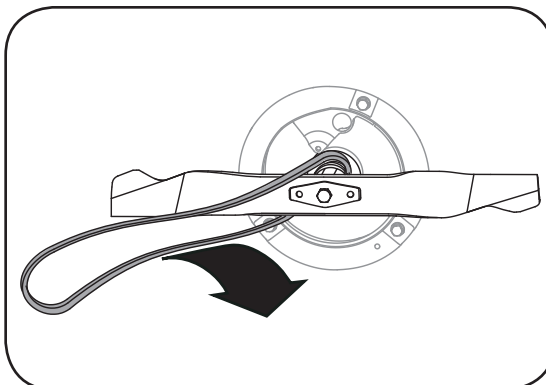

Figure 5-4: Remove belt from around the blade.
- Lift mower to access belt from underside of mower. Slide belt off of engine pulley and around the blade, Figure 5-4.